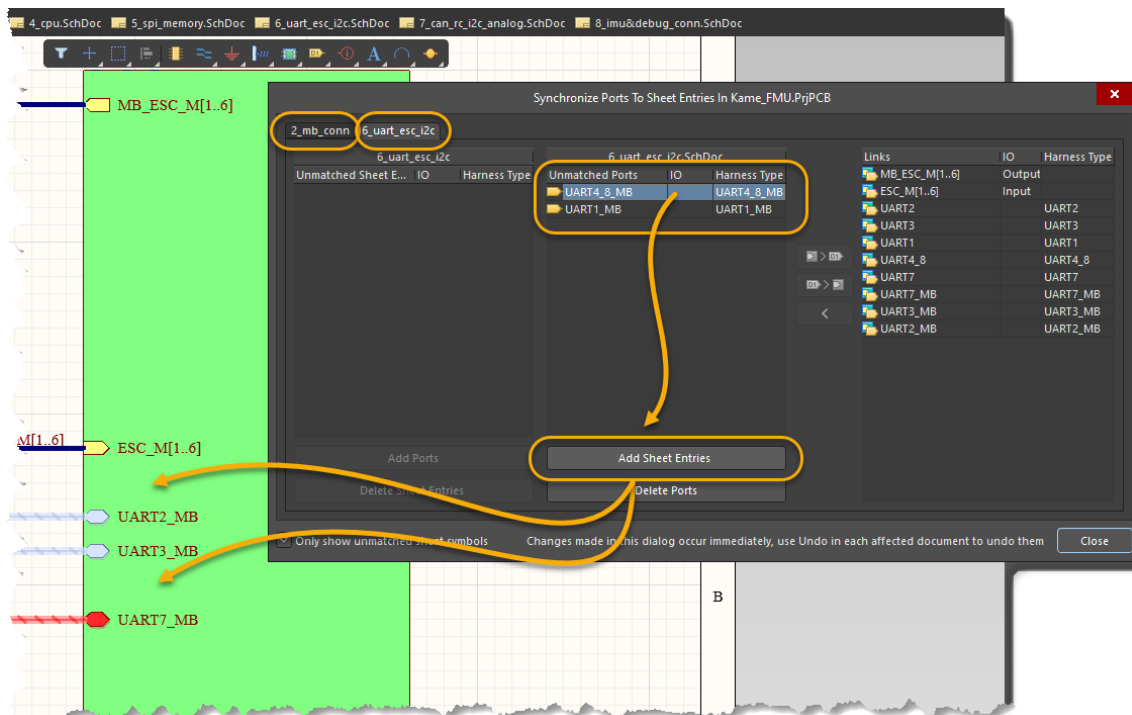

Figure 27. Synchronization for Hierarchical Designs
66. From the **Design** menu, select **Synchronize Sheet Entries and Ports**. Use the instructions below and Figure 27 for reference:
- Near the top-left of the *Synchronize* window, select the `6_uart_esc_i2c` tab, Figure 27.
- Place the new Sheet Entry below the existing `UART3_MB` Sheet Entry on the `6_uart_esc_i2c` sheet symbol, as shown in Figure 27. Feel free to change your grid using the **G** key to place it.